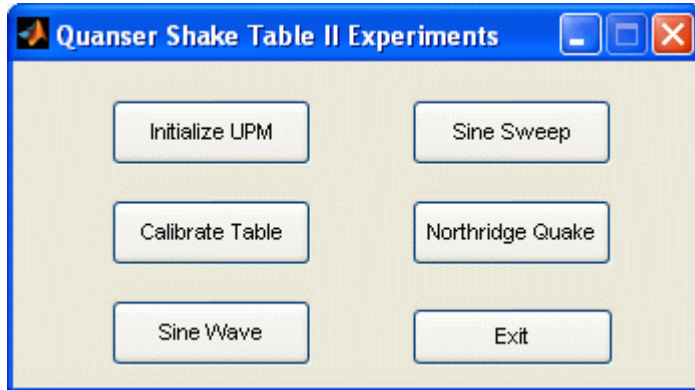

Figure 26: GUI for browsing through ST II WinCon controllers.
For users with the *Advanced* package, or at least those that have Matlab, the graphical user-interface shown in Figure 26 can be used to browse through the various supplied WinCon Projects.
3. Run the *start_exp.m* Matlab script. The GUI shown in Figure 26 should load.